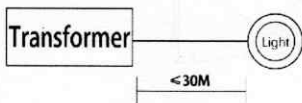

Figure 2
- The distance between the light and the transformer must not exceed 30m (See Figure 2), the cables connecting must be at least  $6\text{mm}^2$ , and otherwise the light would not function properly.